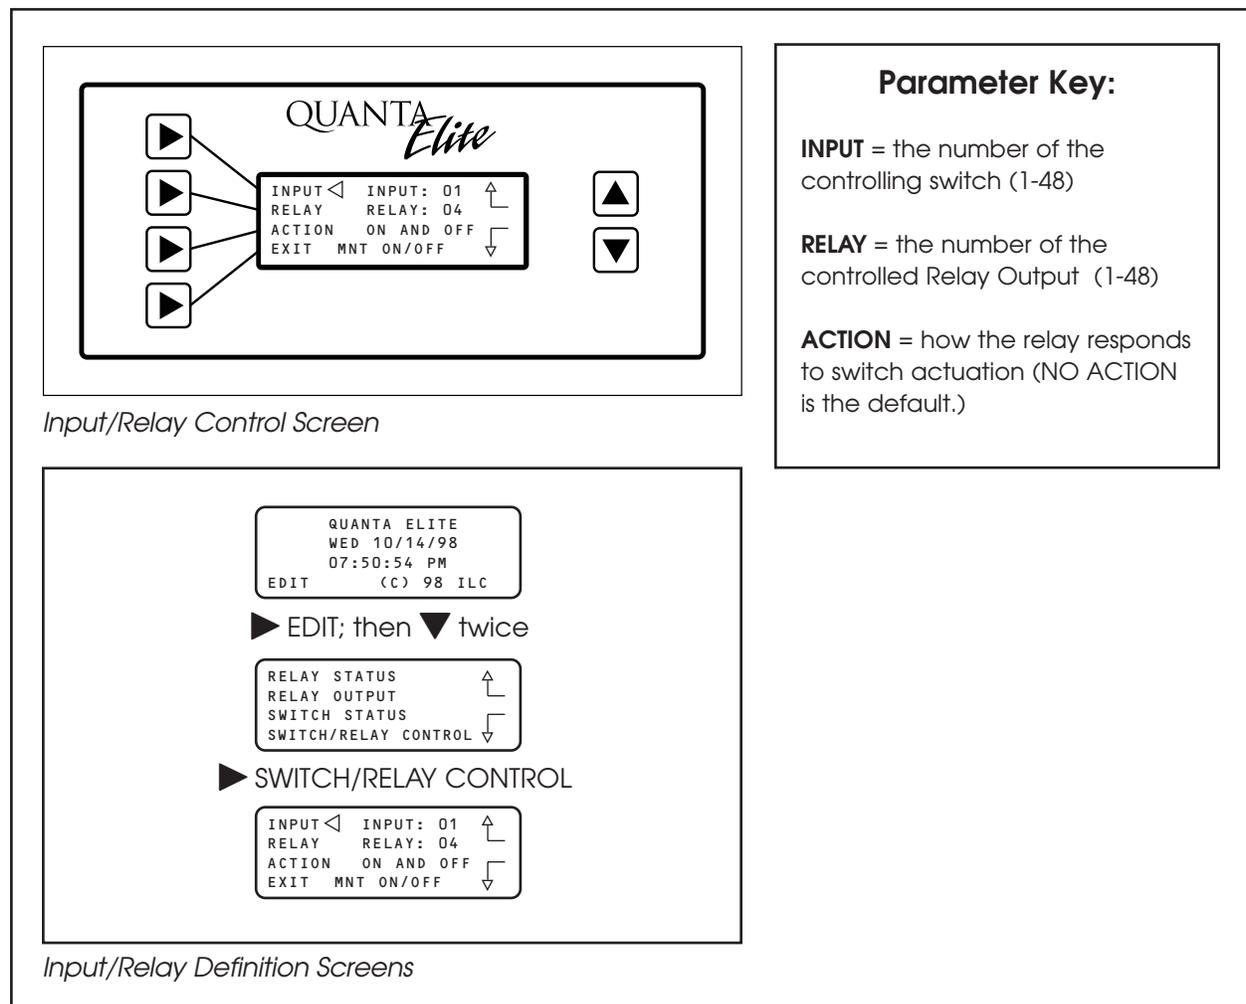

Figure 3.6
2. Then press ► INPUT/RELAY CONTROL. (See Figure 3.6.)